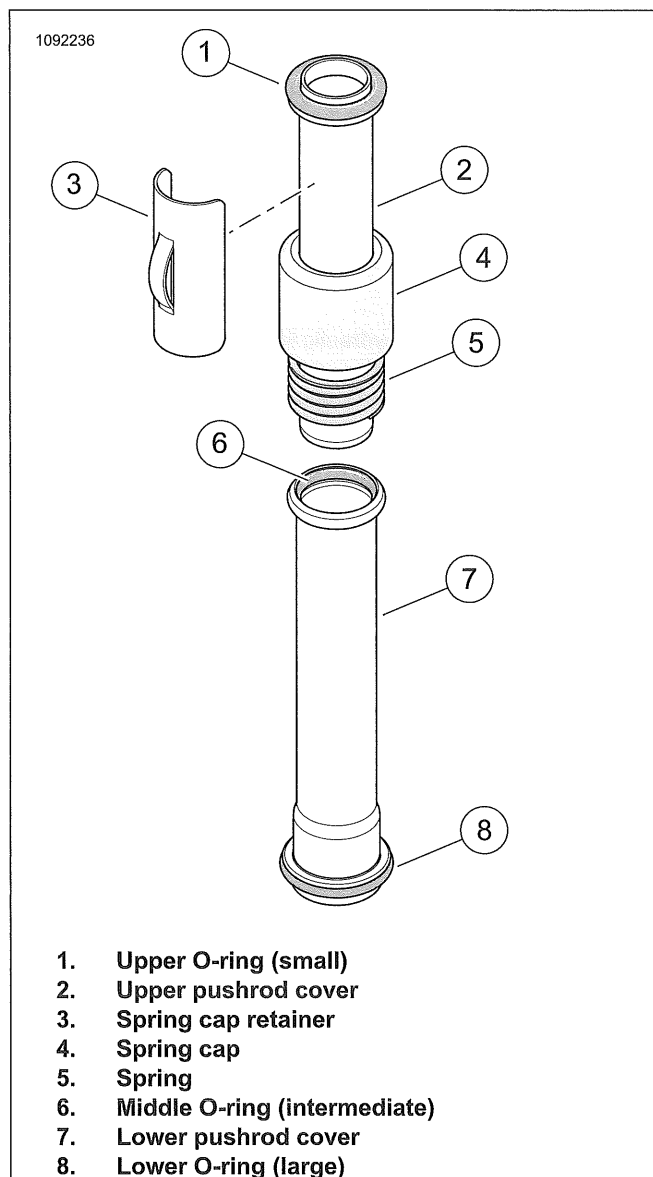

Figure 4-26. Assembled Pushrod Cover
1. See Figure 4-26. Apply a film of clean engine oil to **new** O-rings (1, 6 and 8).
2. Install upper O-ring (1) on the upper pushrod cover (2).
3. Slide the spring cap (4) and spring (5) onto the body of the upper pushrod cover. Move parts up until spring cap contacts upper O-ring seat.
4. Install middle O-ring (6) into groove on top of lower pushrod cover (7).
8. Install lower O-ring (8) on lower pushrod cover.